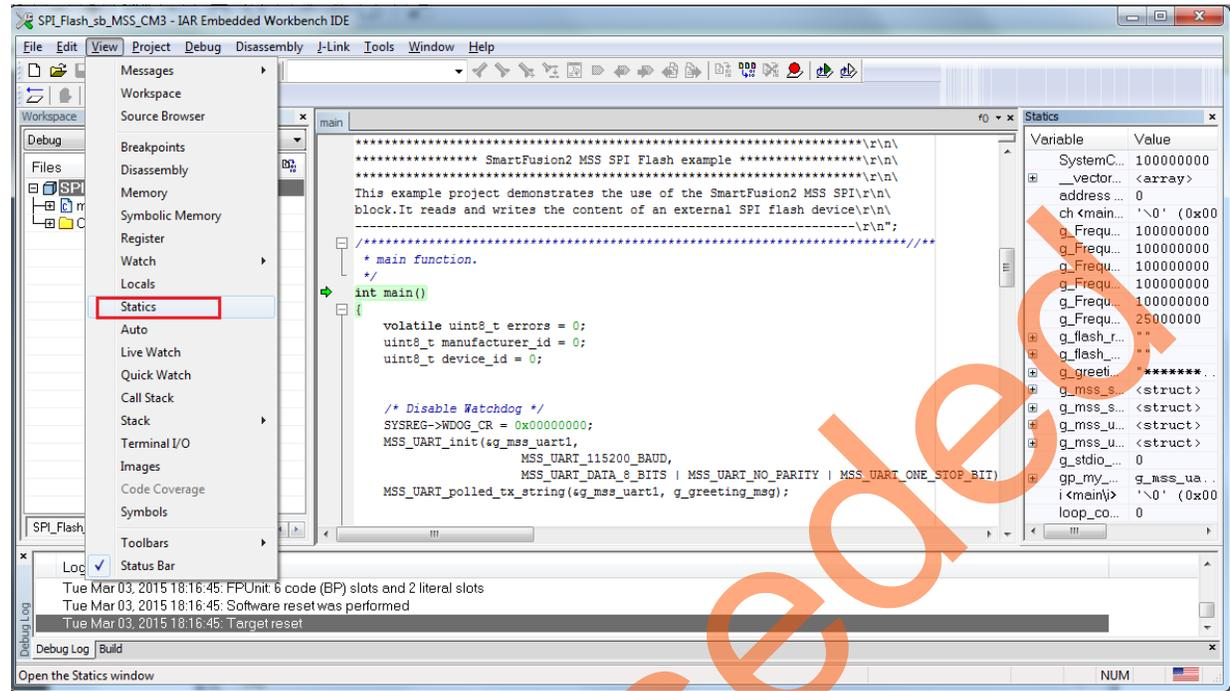

Figure 47 • Values of Source Code Variables
8. Click **View > Statics** to view the values of variables in the source code, as shown in Figure 47.